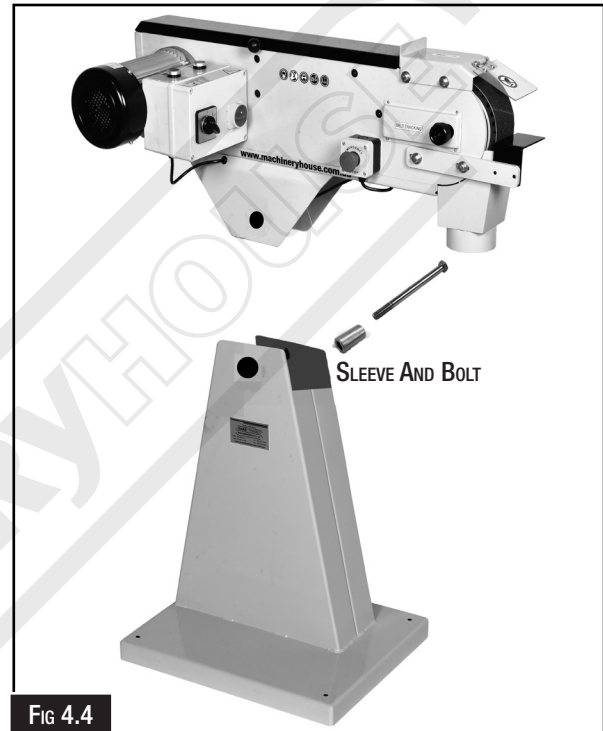

FIG 4.4
3. With the appropriate lifting equipment, lift the sander, spread the yoke on the sander slightly and set onto the base. (Fig. 4.4)